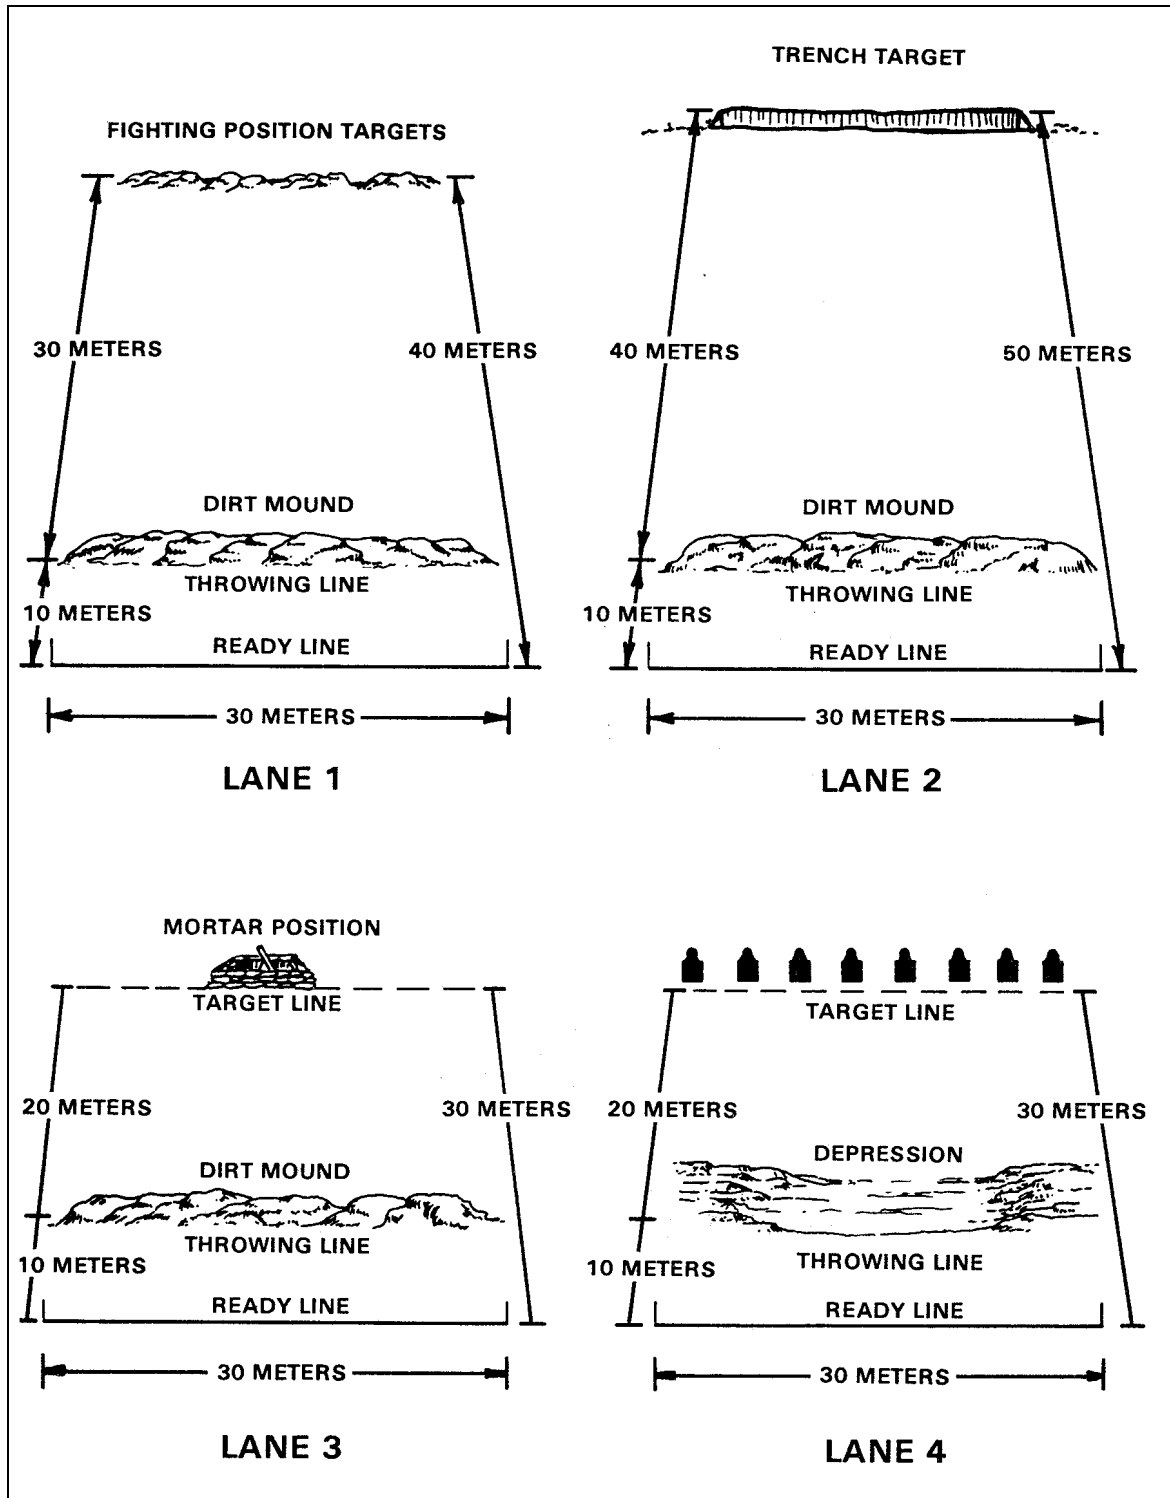

Figure 4-1. Distance and accuracy layout.
(1) Recommend a four-station course layout (Figure 4-1). The four stations may be combined if the terrain does not allow four stations.
(2) Targets should include soldiers in the open at 20 meters, a fortified mortar pit at 20 meters, a fighting position at 30 meters, and a trench target at 40 meters.